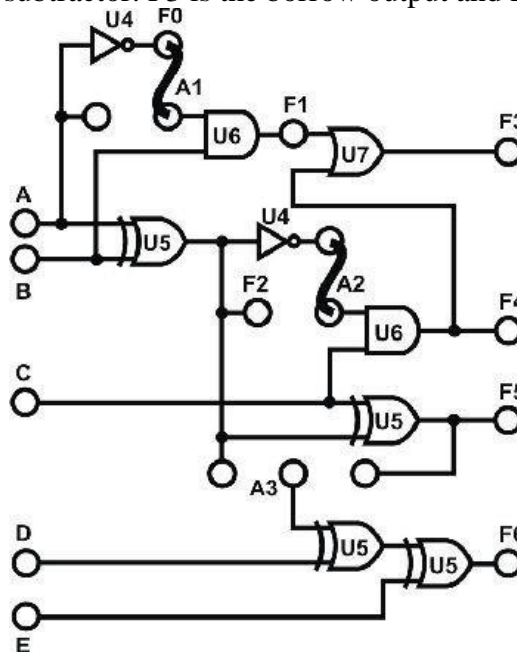

Figure 2.17: Wiring diagram (Half-subtractor).
- Set module KL-33004 and locate block a. Insert connection clips according to Figure 2.17.